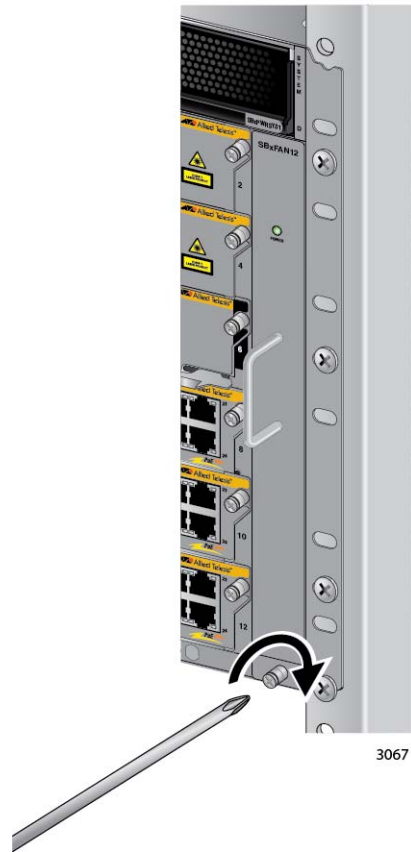

Figure 167. Tightening the Screw on the AT-SBxFAN12 Fan Module
3. With a #2 Phillips-head screwdriver, tighten the screw at the base of the module to secure the module to the chassis. Refer to Figure 167 on page 261.